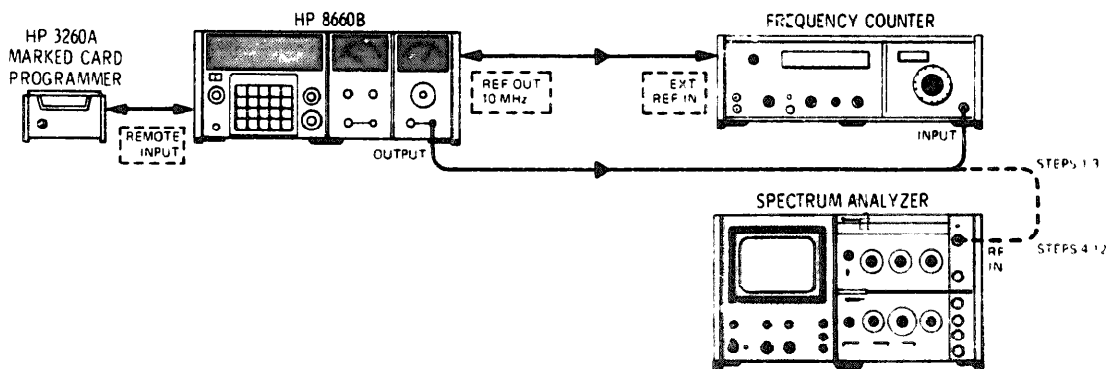

Figure 4-5. Typical Remote Programming Test Setup
2. Program RF Section for 0 dB attenuation and connect RF output to Frequency Counter input (Figure 4-5).